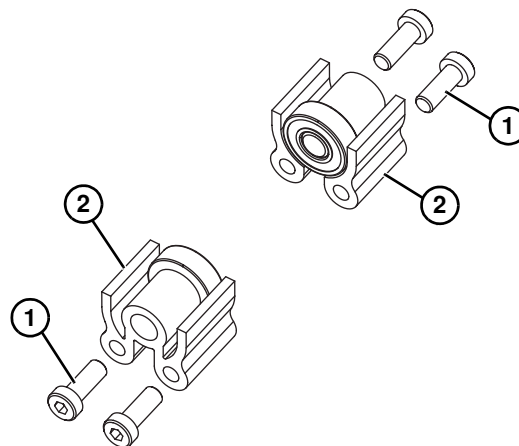

Figure 14
1. Locate return rollers. Exploded view shown in (**Figure 14**).
2. Remove two screws (**Figure 14, item 1**) and roller assembly (**Figure 14, item 2**).